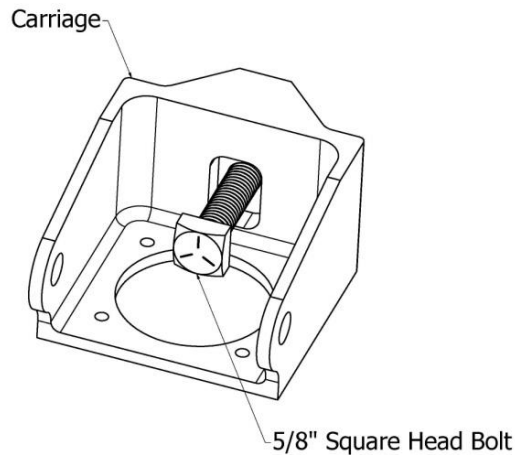

FIGURE 3 – Insert 5/8" Bolt
5. Insert the 5/8" square head bolt into the carriage with the head nested in the recess (see Figure 3).